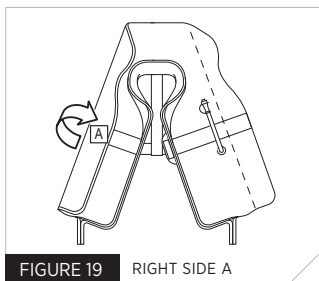
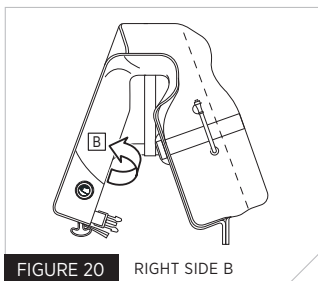

FIGURE 19 RIGHT SIDE A
FIGURE 20 RIGHT SIDE B
2. Fold wearer's right side (A) inward along the full length of the dotted line (Fig. 19). Fold cover (B) over side (A) (Fig. 20).